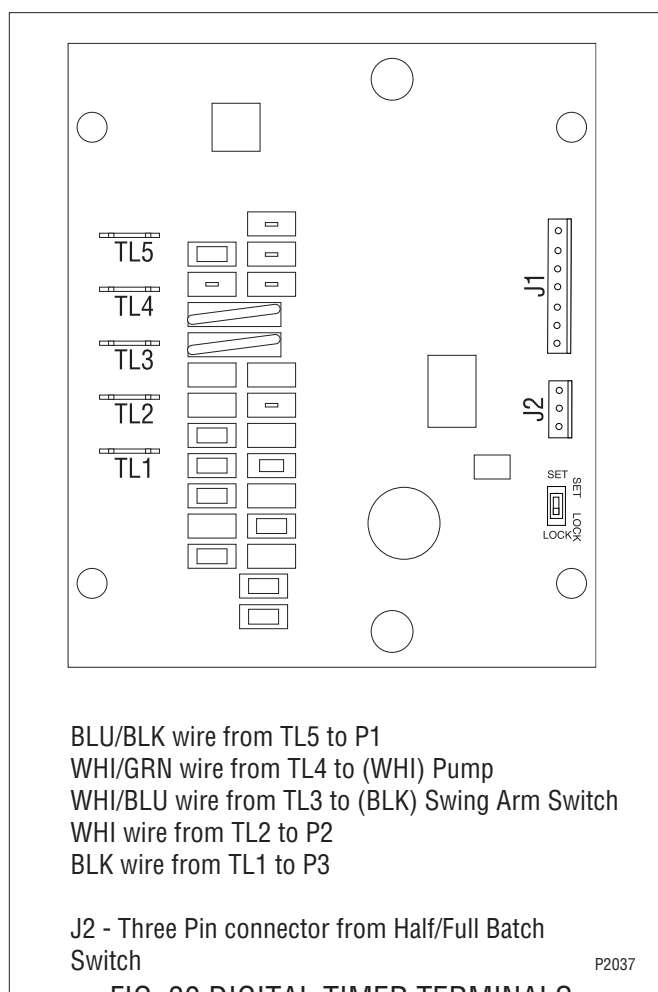

FIG. 30 DIGITAL TIMER TERMINALS
6. Refer to Fig. 30 and reconnect the wires.
4. Attach all wires to the replacement timer board prior to installation to the component mounting bracket. Refer to FIG. 30 when reconnecting the wires.